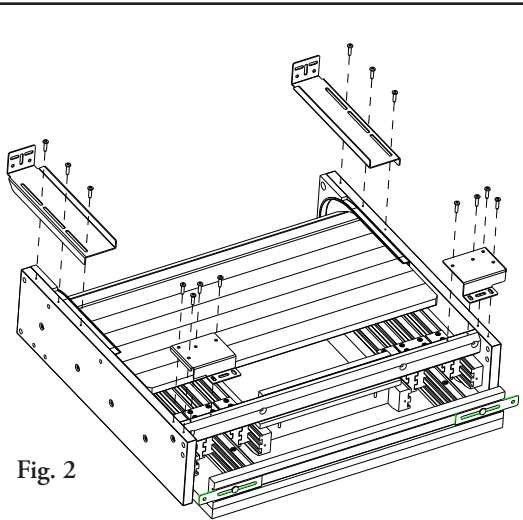

Fig. 2
2. Attach front and rear brackets with (14) M4 x 18 pan head wood screws to bottom frame in pre-drilled holes. Leave back brackets loose for adjustability. (see fig. 2)